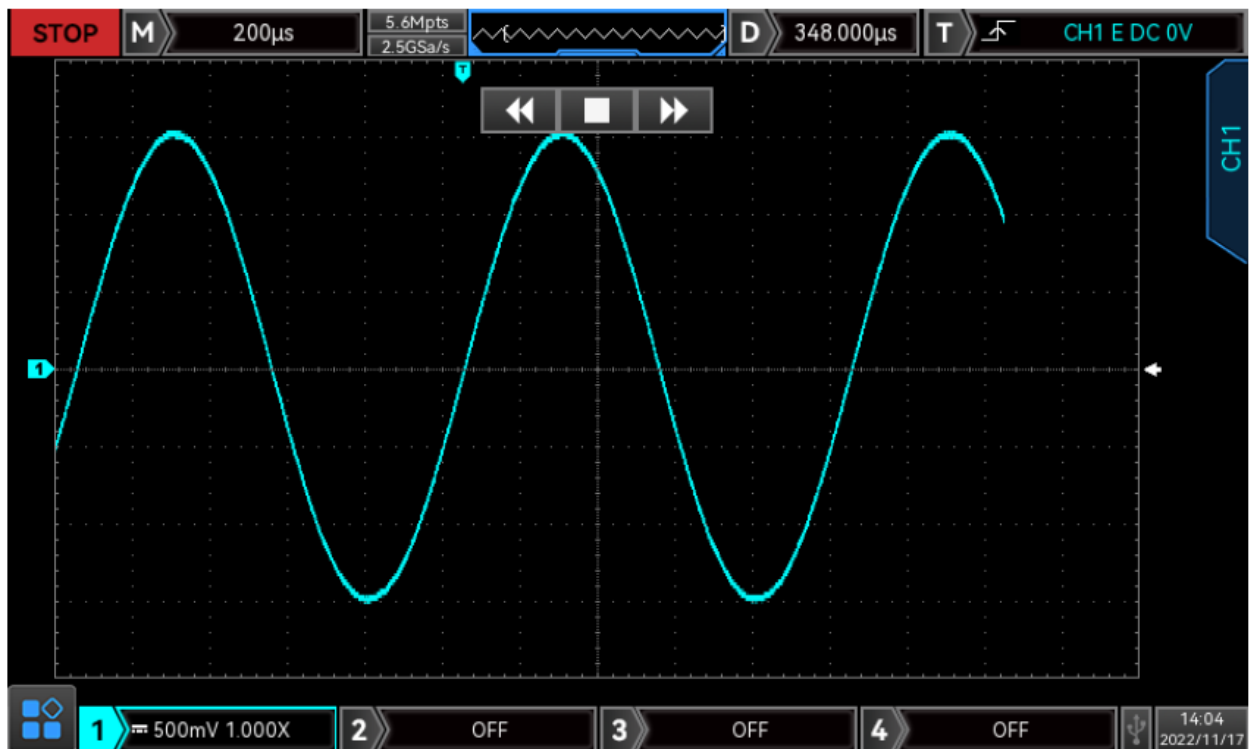

Figure 12
- When the oscilloscope is stopped, touch and drag the T identifier to the left or right around quickly or rotate the horizontal Position knob, a quick guide icon will display at the top of the screen, as shown in Figure 12.